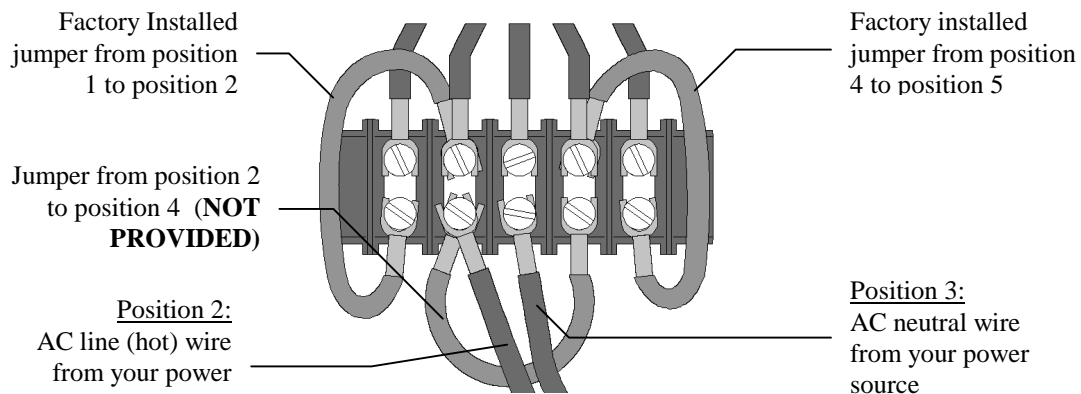

Figure 8 120 VAC Connections
5. If you are going to connect the scoreboard to a 120 VAC supply, connect the AC line wire to position 2 and the AC neutral wire to position 3 of terminal strip T3 on the junction chassis. Add a jumper from position 2 to position 4. **This jumper is not provided.** Refer to figure 8.